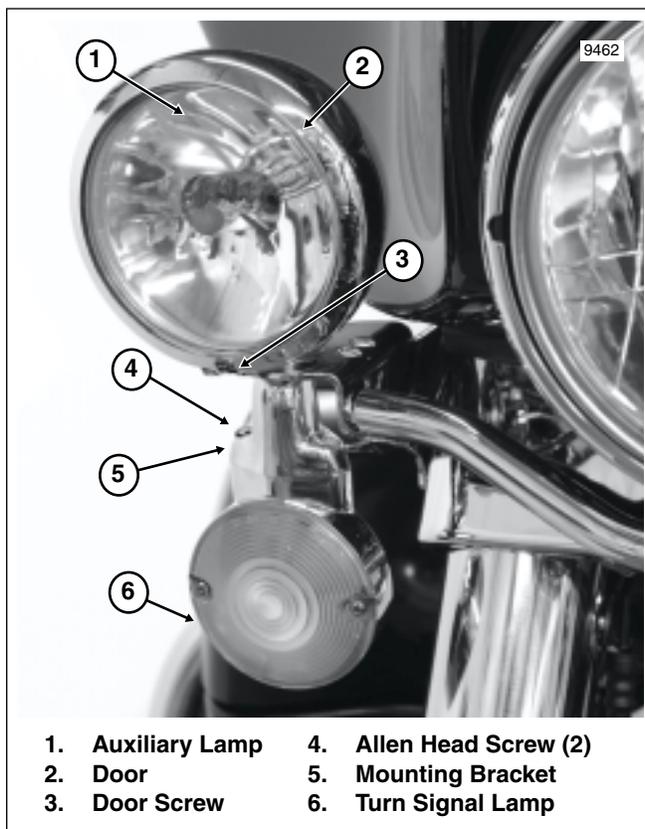

Figure 8-32. Auxiliary and Front Turn Signal Lamp
1. Loosen auxiliary lamp door screw as required to pull lamp door from lip of lamp housing. See Figure 8-32.
- Remove two allen head screws to release turn signal lamp from mounting bracket. See Figure 8-32.
- Start two allen head screws to secure turn signal lamp to mounting bracket. See Figure 8-32. Verify that conduit fits in slot at back of bracket and is not pinched. Alternately tighten screws to 36-60 **in-lbs** (4.1-6.8 Nm).
- a. Remove two screws to release turn signal lamp from mounting bracket. See Figure 8-32.